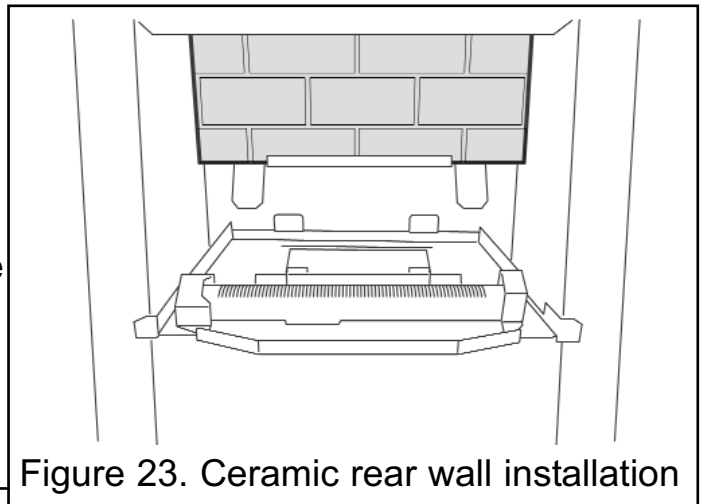

Figure 23. Ceramic rear wall installation
1. Fit the ceramic rear wall inside the “L” bracket on the back face of the burner compartment. Push the ceramic wall flat against the back face of the burner compartment (See figure 23).